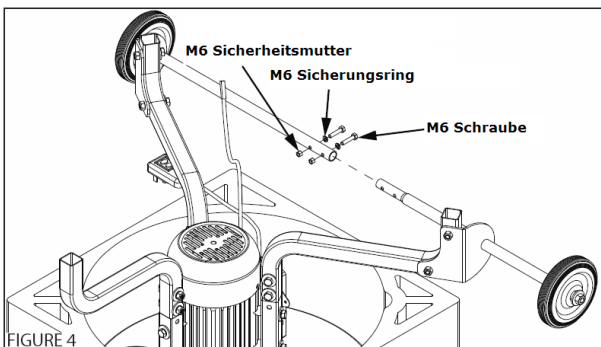

FIGURE 4
4. Assemble axles with transport wheels (**FIGURE 4 & 5**).
5. Assemble axles with transport wheels (**FIGURE 4 & 5**).